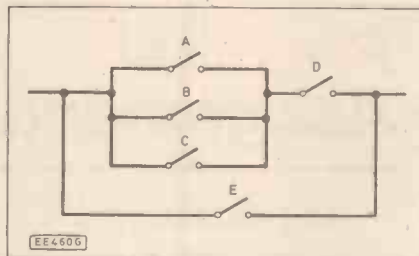

Fig. 9.23. Switch logic arrangement for Problem 9.2.
9.2 Devise an arrangement of logic gates which can be used to replace the switch circuitry shown in Fig. 9.23. (e)